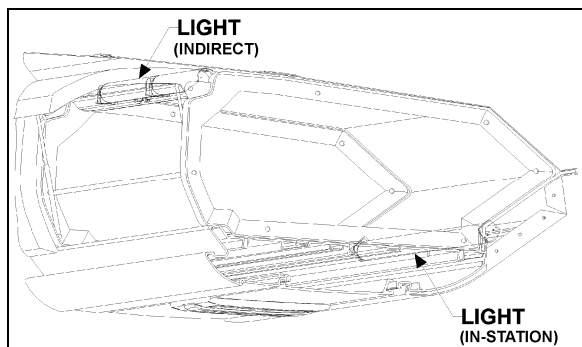

FIGURE 39: PARCEL RACK
3. Lift the hinged cover and replace the two retaining screws (fig. 39).